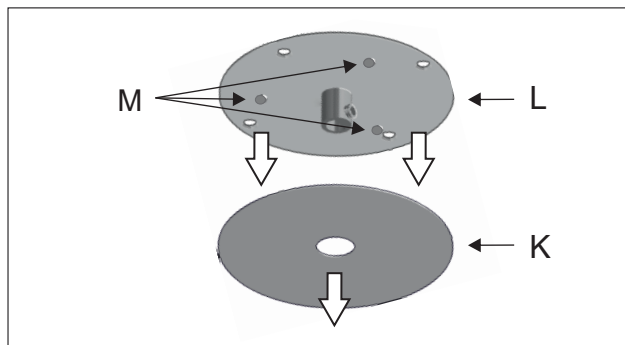

Figure 8
Pull the metal base (K) to separate it from the mounting bracket (L). Be careful not to lose the magnets (M) that connect the mounting bracket to the metal base. Figure 8